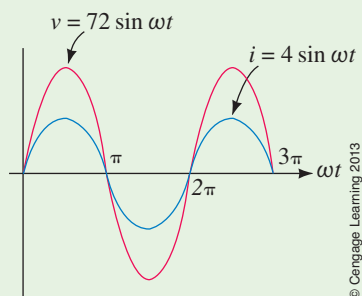

FIGURE 18-4
- The voltage and current waveforms are shown in Figure 18-4.